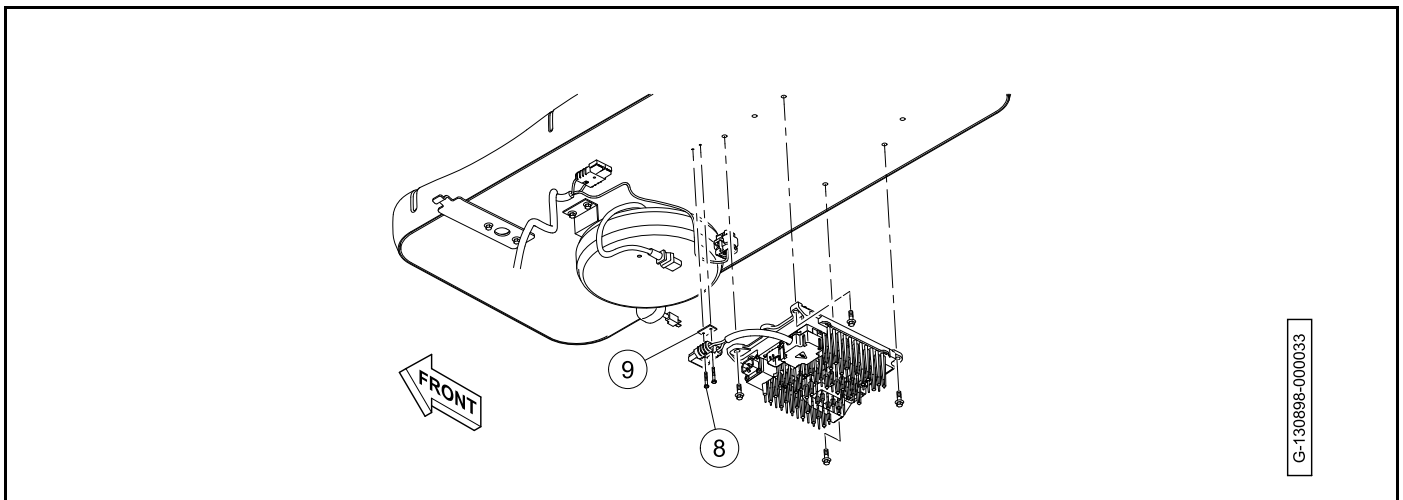

Figure 15-34 Charger Power Harness Connector Screws
9. Disconnect the 14-pin connector (7) from battery charger.
10. Remove the screws (8). Retain the insulator (9) (Figure 15-34).
7. Disconnect the charger harness (5) from the charger power harness (6).
8. Disconnect the 14-pin connector (7) from battery charger.
9. Remove the nuts (8), screws (9), and insulator (10) (**Figure 15-34**). Retain the insulator.